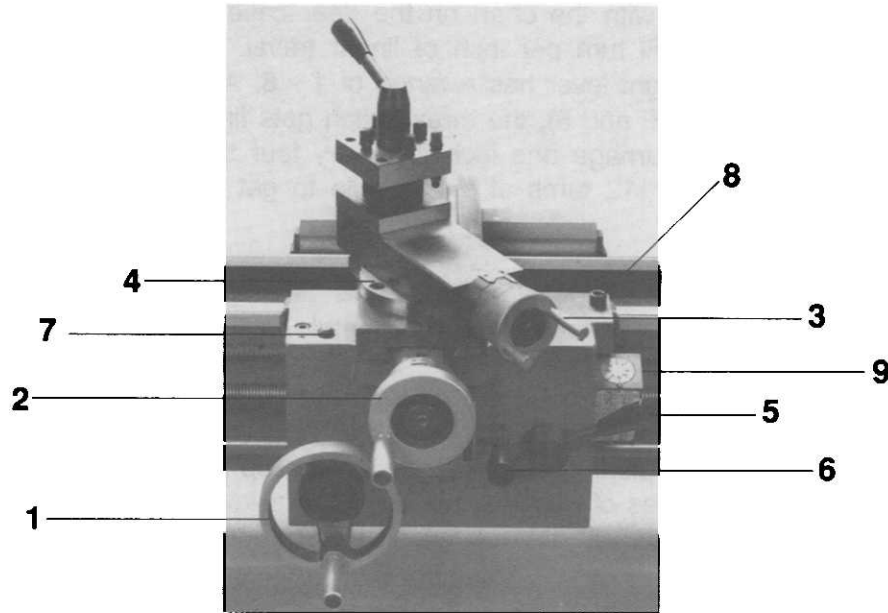

Figure 11
1. #1 in Figure 11 is the *longitudinal dial*. Turning this dial moves the carriage along the bed. For calibration purposes, the graduated sleeve in back of the handle can be turned independently of the dial by holding the handle of the dial with one hand and turning the sleeve with the other.
2. #2 in Figure 11 is the *cross-slide dial*. Turning this dial moves the cross-slide across the bed. Calibration of this dial's graduated sleeve is done in the same way as for the longitudinal dial.
3. #3 in Figure 11 is the *compound slide dial*. Its graduated sleeve is also adjustable.
5. #5 in Figure 11 is the *lead screw engagement lever*. Pushing the lever down engages the carriage to the lead screw. **WARNING: Do not engage the carriage to the lead screw if the lead screw is not turning. Also: Do not engage the lead screw if the feed rod is in use.**
6. #6 in Figure 11 is the *feed direction lever*. If the feed rod is running forward and you push the lever down, the cross slide will move across the bed (toward the workpiece). If the feed rod is running forward and you pull the lever up, the carriage will move along the bed (toward the headstock).
7. #7 in Figure 11 is the *oil filler plug*. This will be covered in greater detail in the "Lubrication" section later in the manual.
8. #8 in Figure 11 is a longitudinal locking stud; i.e., when the stud is engaged, the carriage will not move along the bed.